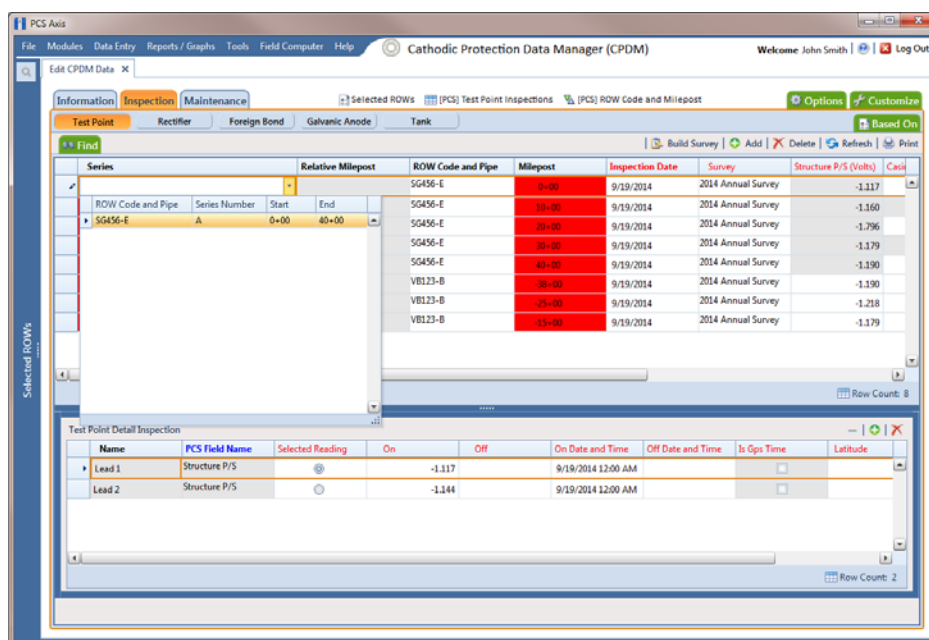

Figure 3-75. Pipeline Series
- 12 Open the data entry grid with the mileposts you want to apply pipeline *Series*, such as the *Test Point Inspection* data grid shown in the next example (Figure 3-75, page 127).